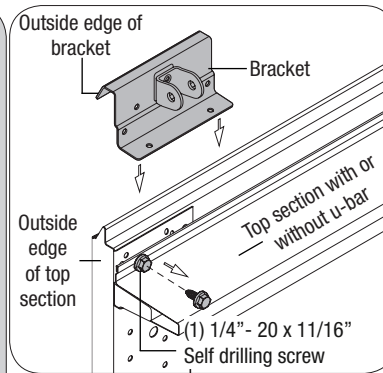

FIG. 1.1
**NOTE:** If you have a top section with a u-bar, you must remove (1) 1/4" - 20 x 11/16" self drilling screw from the top portion of the u-bar, as shown in FIG. 1.1.
Starting on left hand side of top section, locate the outside edge of the top section and seat the outside edge of bracket on male part of the top section, as shown in FIG. 1.1 and 1.2.